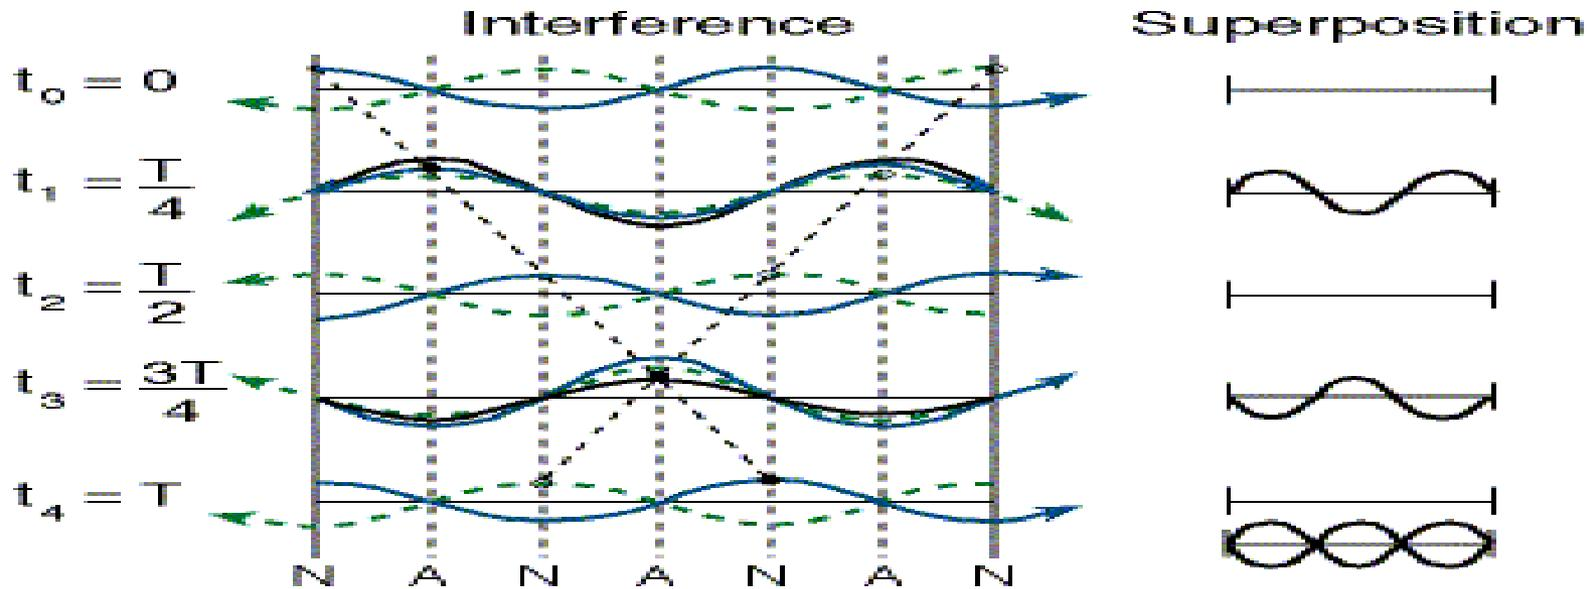

Figure 4.1: Creating standing wave from two waves moving in opposite directions.
In figure 4.1 a pictorial demonstration is given for the creation of a standing wave during one complete cycle (T).
In figure 4.1 the wave is described every $1/4$ cycle.
On the right side of figure 4.1 **the superposition of the two waves** is shown.